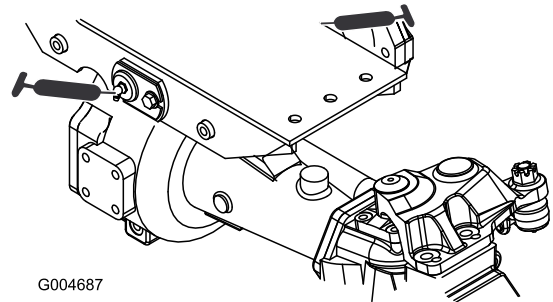

Figure 40
- 2 front and rear-axle-pivot bushings (Figure 40)